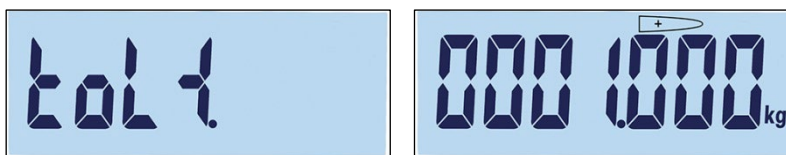

Figure 3-49: Positive Tolerance Label and Setting Screens
4. The positive tolerance (Tol +) is edited in the next screen (Figure 3-49). Once the value is set, press  to move to the next step.